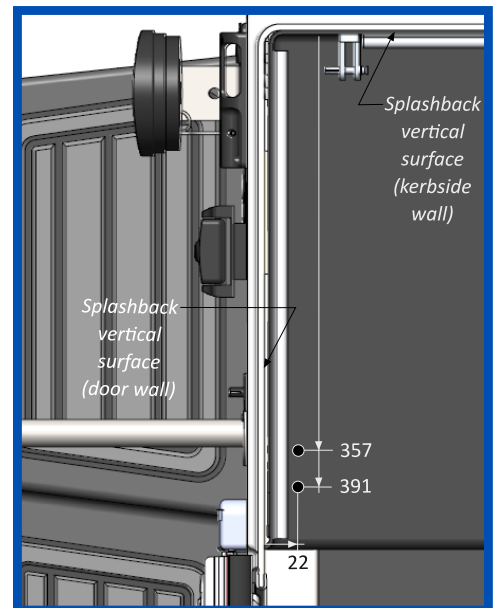

Fig. 1
- Mark two points on the galley bench 357mm and 391mm from the splashback on the passenger side (kerbside) wall of the camper, and 22mm from the splashback on the rear (door) wall (Fig. 1).